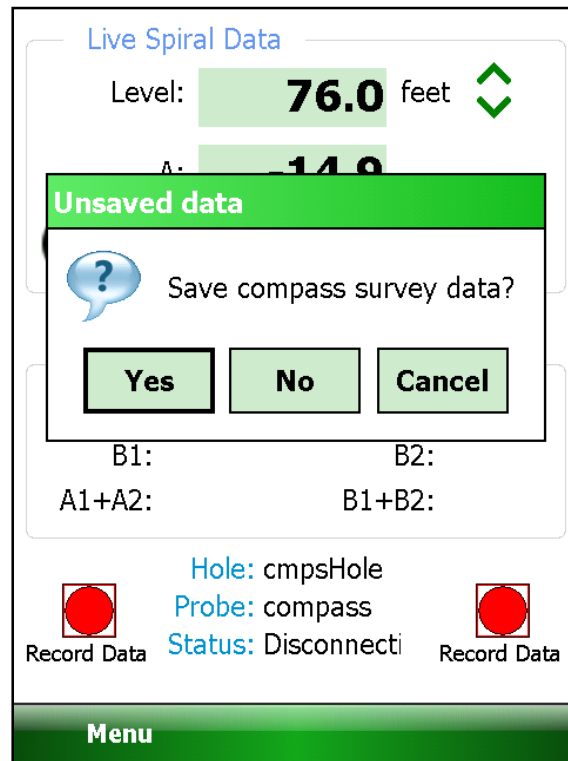

Figure 97 - Saving Compass Survey Data
8. When done the survey, tap “Menu->Exit Live Readings” and the screen shown in Figure 97 will be displayed. Tap “Yes” to save the compass survey data.